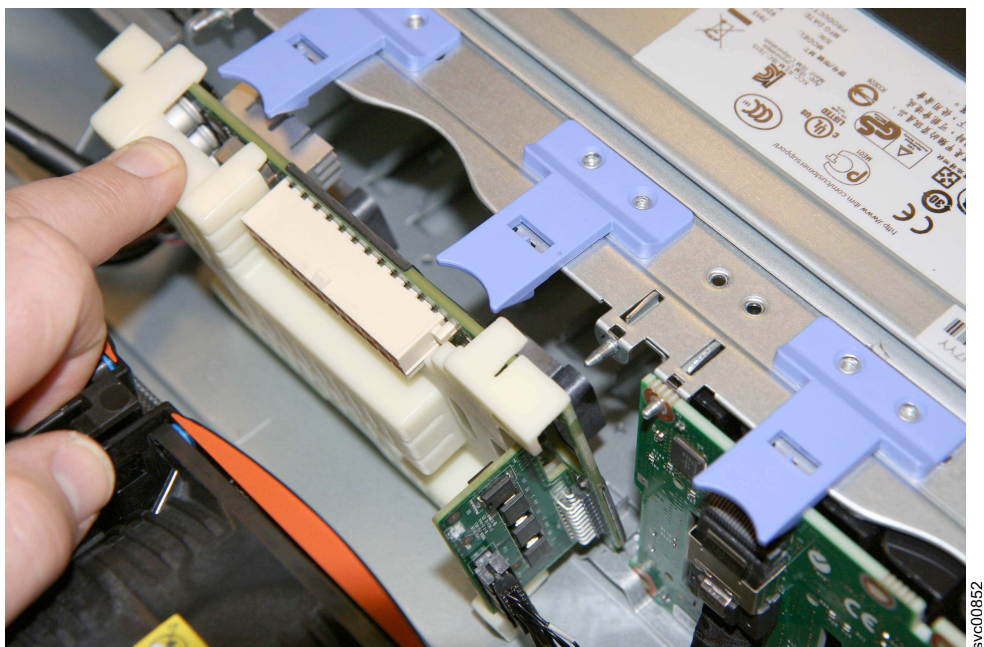

Figure 104. Removing the battery backplane
1. Raise the locking tabs, and slightly pull back and lift the battery backplane from the chassis, as shown in Figure 104 on page 126.